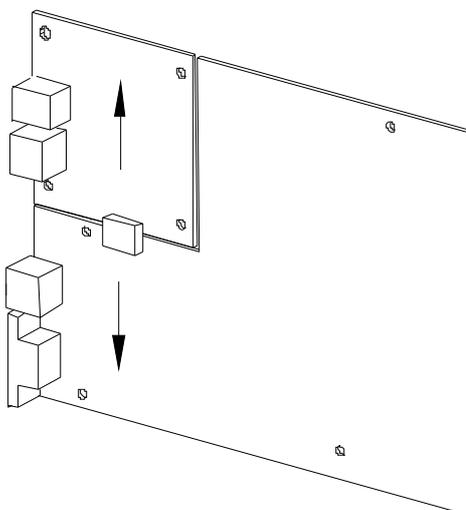

Figure 9.7
5. Replace the Ethernet on main-board (Figure 9.7).